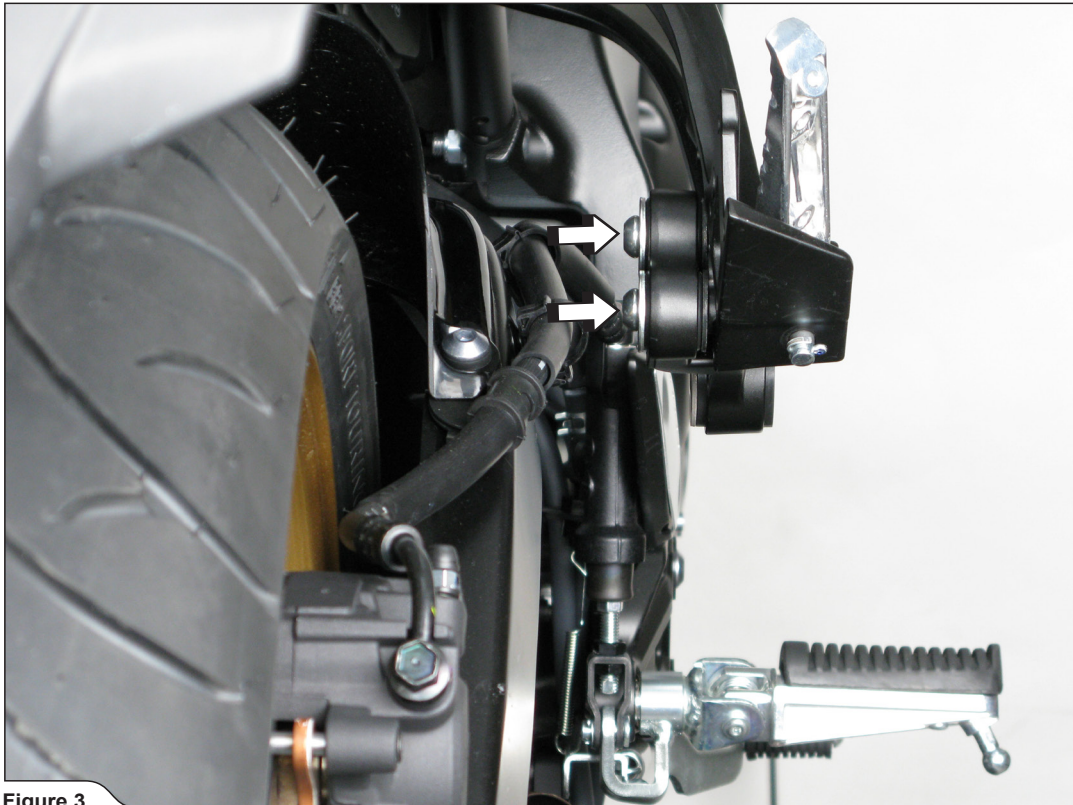

Figure 3
3. Loosen the marked bolts and remove the stock muffler bracket off the motorcycle (**Figure 3, 4**).